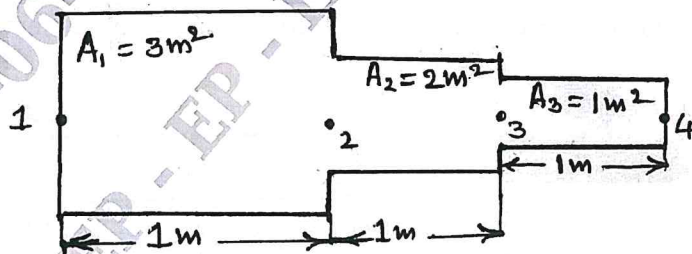

Fig.Q.8
- 8 For smooth pipe of variable cross section shown in Fig.Q.8. Determine the potential at the junctions, velocities in each section of pipe and volumetric flow rate. Potential at left end  $P_1 = 10 \text{ m}^2/\text{s}$ , right end  $P_4 = 1 \text{ m}^2/\text{s}$ . Fluid flow through the pipe  $K_x = 1$ . (20 Marks)